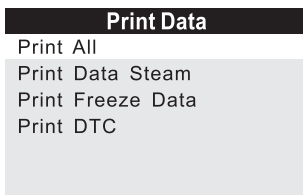

Figure5.2
4) Use the **UP/DOWN** scroll button to select **Print Data** from **Main Menu** in the scan tool, and press the **OK** button. (Figure 5.2)